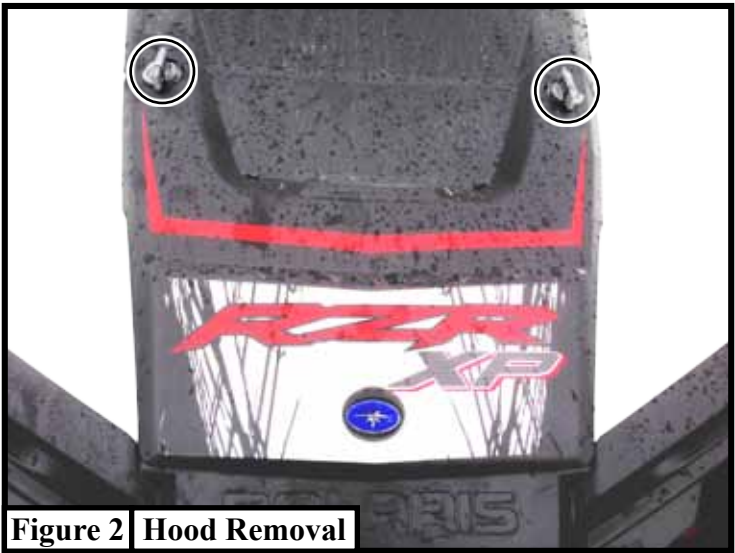

Figure 2 Hood Removal
2. Remove 4 Flanged Bolts (D) and Tow Strap Bracket (E). 2 of the Flanged Bolts (D) will be reused. Discard 2x Bolts (D) and Tow Strap Bracket (E). See **Figure 2**.
3. Locate the Upper Fascia (F) shown in **Figure 2**. Remove the Side Pins (G) and Rear Torx Screws (H) from the driver and passenger side of the Upper Fascia (F) as shown in **Figure 3**. Remove the Upper Fascia (F) and set components aside for later.
10. Reinstall the Upper Fascia (F) using the Side Pins (G) and Rear Torx Screws (H) removed in step 3. See **Figures 2 and 3**.
1. Remove the hood. Shown in **Figure 2**.
3. Place LH and RH mounting angles into position as shown in Figure 2 and 3. Assemble using the 3/8" hardware supplied as shown in the above exploded view. *(Note: Make sure you route the cables and hoses as shown in Figure 2)*